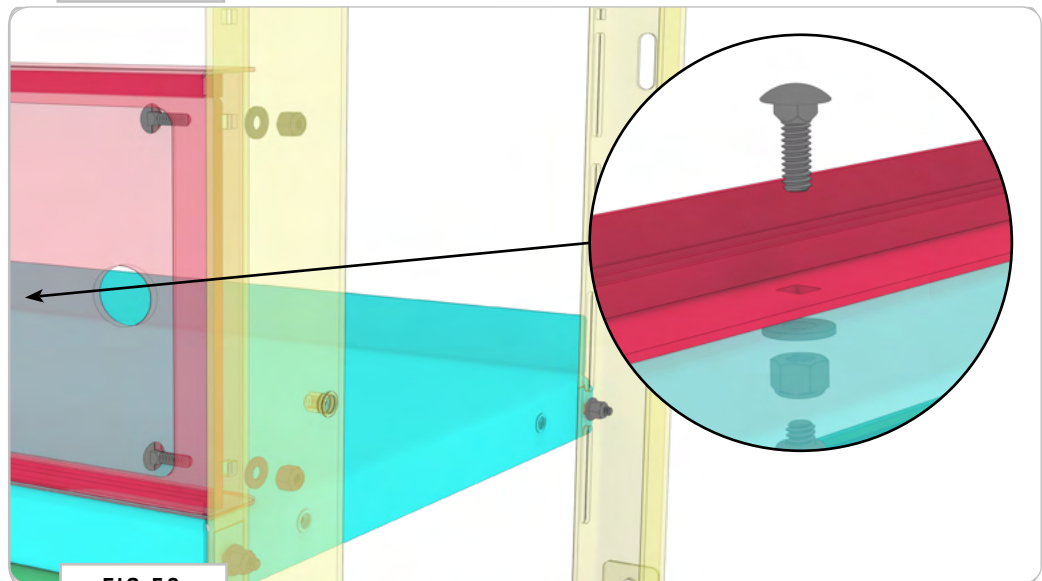

FIG 50
Attach your selection of **Lower Doors** to the **Left and Right Side Cabinet Ends** using (4) 1/4-20 Square Neck Carriage Bolts, Flat Washers and Nylon Locknuts (FIG 50). There's a final mounting location in the middle of the unit that will take (1) 1/4-20 x 0.75 Square Neck Carriage Bolt, Flat Washer and Nylon Locknut to finish out this step (FIG 50).